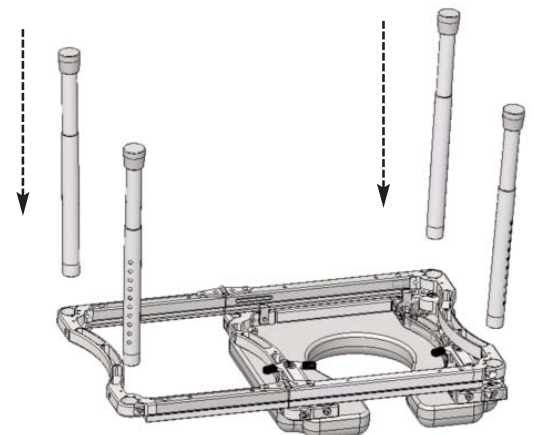

Figure 4
- D** Position the legs so that the brass buttons point outward (Making it easier for future leg height adjustment). Make sure that the legs slide "home" into the socket of the seat frame. Use the included ¼" Allen wrench to securely tighten the bolts located at the corners of the frame (Refer to Figure 4).